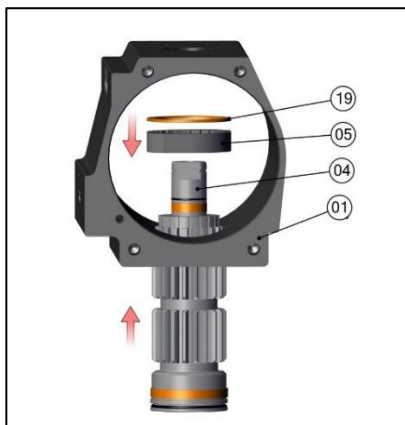

Fig no.25
- d) Keep the pinion inside the body & Insert the Cam (05) & Washer (19) from top side of Pinion (04). (refer Fig no.25)